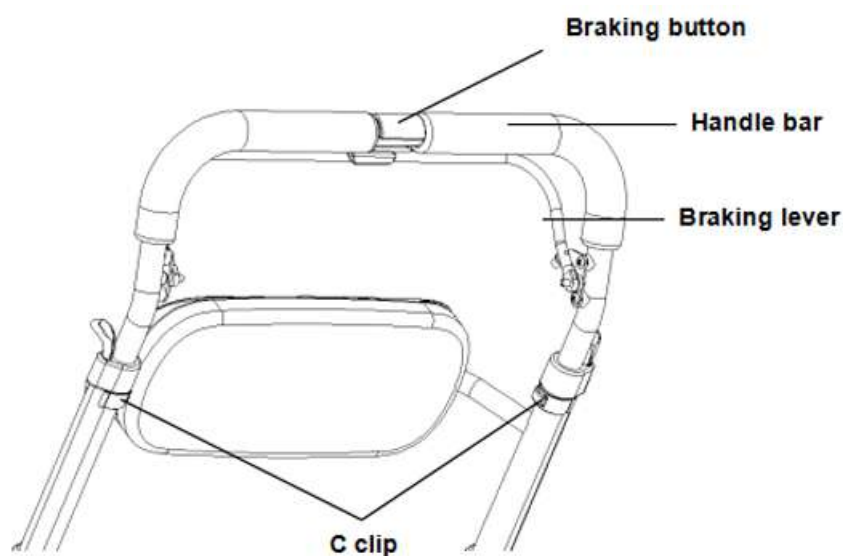

Figure 3
Start by removing the C-clip, then adjust the adjustable handle tube up or down to the desired height (as shown in Figure 3). Secure it in place with the C-clip.
1. Engaging the Brake: Hold the handle and brake lever with both hands, then press the brake lever toward the handle, as illustrated in Figure 3. Next, lock the brake lever using the locking button (see Figure 3). Make sure the brake is engaged when you hear a "click."